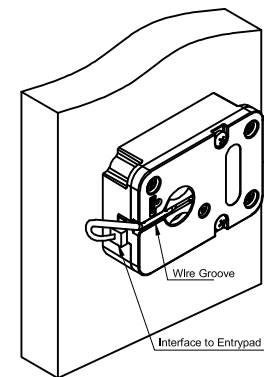

Fig. 10
4. Install the two plastic protective holders provided by the factory to fix the cable in the round groove. (Fig. 10). It is important to make sure the protective holders are securely in place to protect the cable from being damaged.